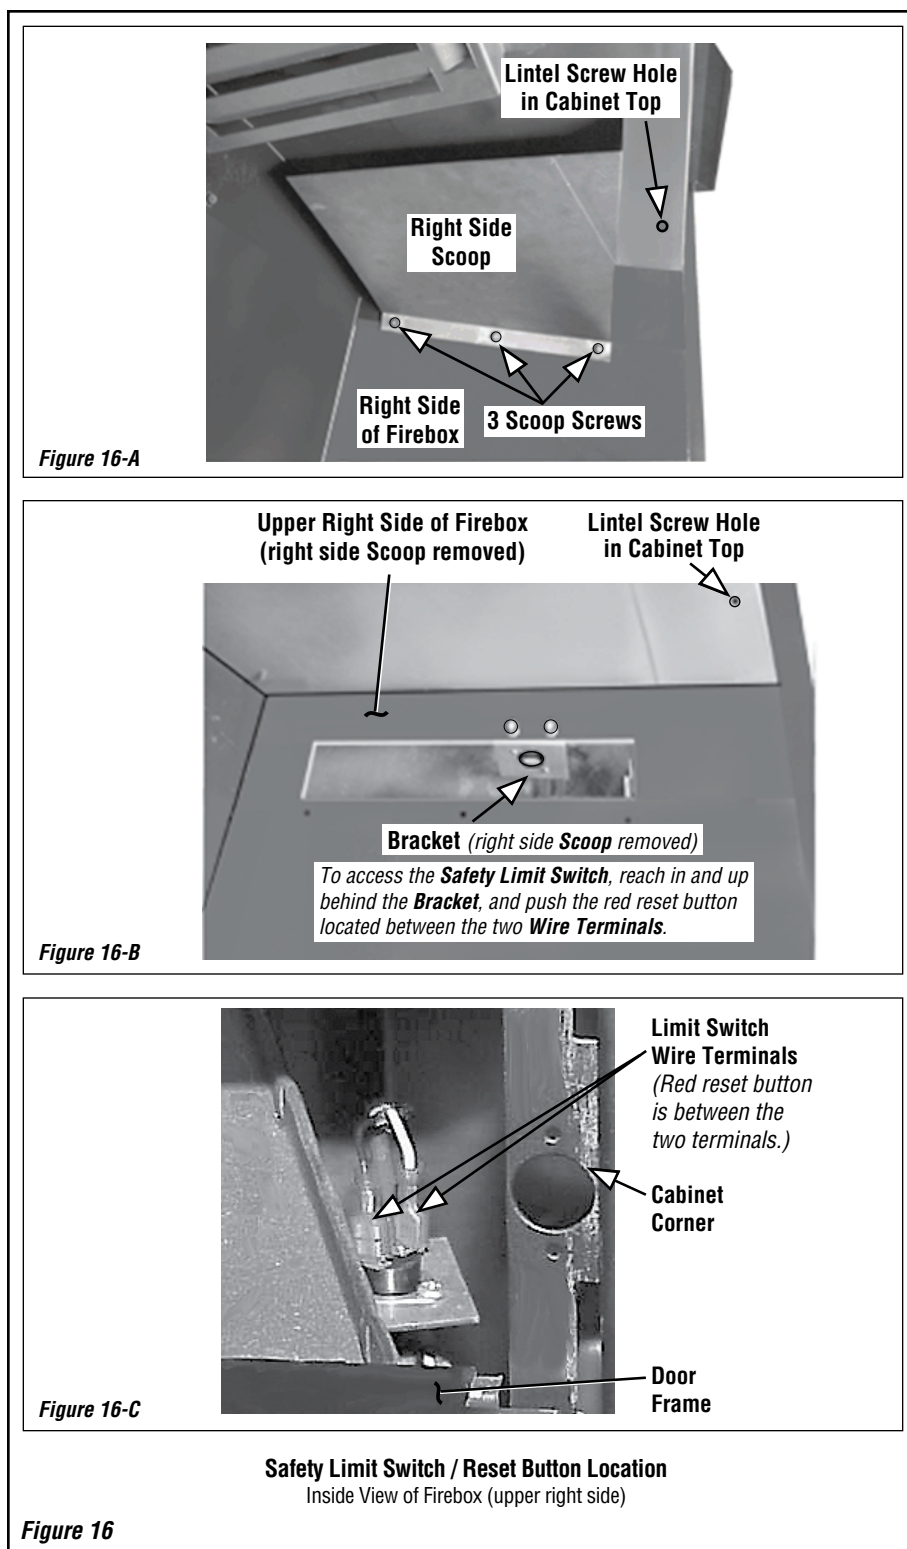

Figure 16
This appliance is equipped with a manually-reset safety limit switch in the upper RIGHT side of the firebox, behind the right side scoop. Refer to **Figure 16** for its location.
To RESET the safety limit switch, push the reset button located between the wire terminals on the back of the switch. *Follow the steps below to access the switch (also see **Figure 16-C**).*
- 5 - Remove the (3) screws securing the lintel, and then remove the lintel. One of the lintel cabinet top holes is shown in **Figure 16**.
- 6 - Remove the (3) screws securing the scoop, and then remove the scoop. Refer to **Figure 16** for correct location for model size.
- 7 - Reset the limit switch per **Figure 16-B**. If unit does not reset, remove the (2) screws securing the safety switch bracket, and